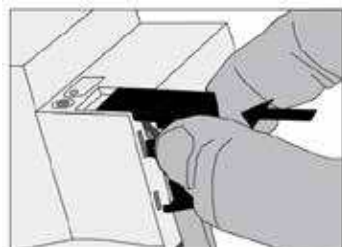

Figure 6: Installing the cover
- Install cover on top of the bus terminal so that it snaps into place (Figure 6).